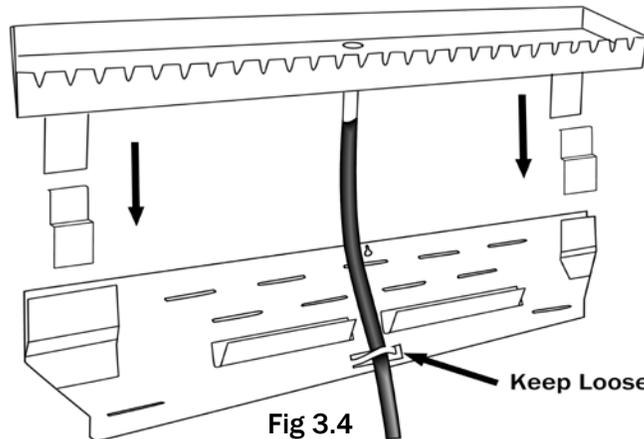

Fig 3.4
3. Place the pump assembly (H) inside the reservoir (L) close to the right edge. **DO NOT plug the pump (H) into an outlet. Operating the pump dry will void any warranty and burn out the pump.**
4. The water dispenser (E) will sit in the bracket pockets on the stone wall bracket (B). Until the stone is mounted it will need to be placed temporarily above the bracket so the stone can be positioned on the bracket cleat. Place one Pocket Clip (M) inside each of the wall bracket pockets (B) (Fig 3.3). The curved end of the Pocket Clip should be up and facing the wall. Next slide the tabs on the dispenser (E) behind each Pocket clip (M) so it is holding up the dispenser (E) (Fig 3.4); you may need to pull the clip out from the wall to slide the tab behind as it should be a very tight fit. Do not push the dispenser (E) all the way down; just enough so that it doesn't fall.